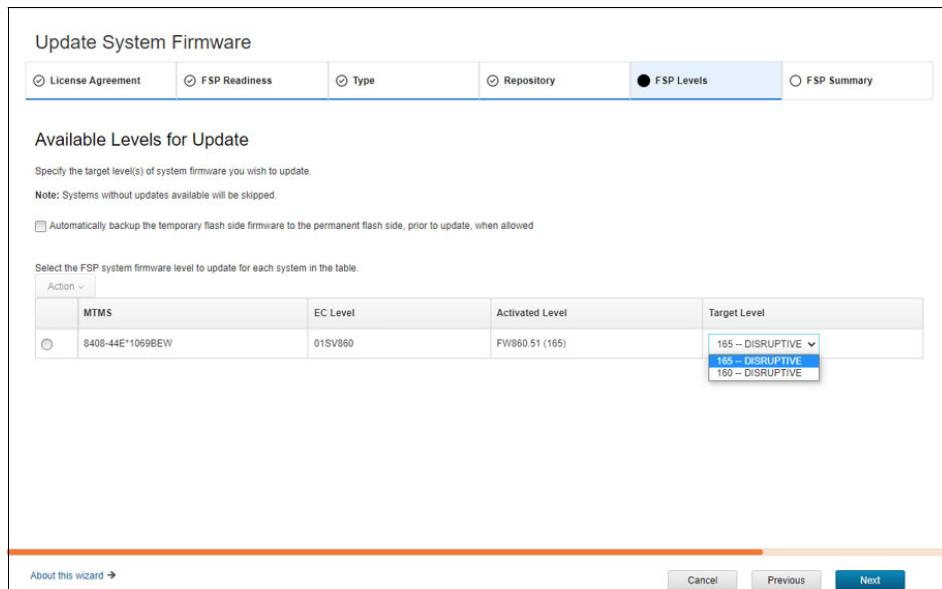

Figure 2-53 Update Summary window
- The Update Summary window opens. In this window, the progress of the update and whether it successfully completed is shown. If a disruptive upgrade is to occur, select the **I acknowledge that system disruption will occur** option. If this option is not selected when a disruptive upgrade occurs, the wizard cannot progress (see Figure 2-53).